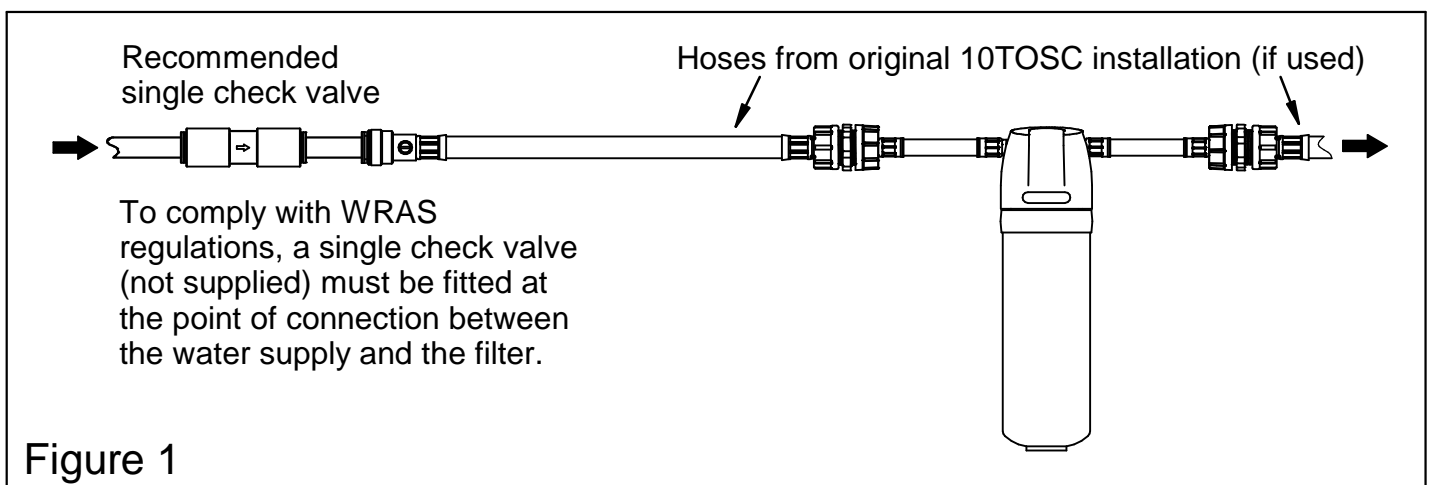

Figure 1
6. IMPORTANT: ensure correct direction of flow. Ideally, the CWFC1 filter should be orientated as shown in figure1. However, if your existing installation does not permit this, it can be positioned in other orientations **ENSURING THE DIRECTION OF FLOW IS CORRECT :**